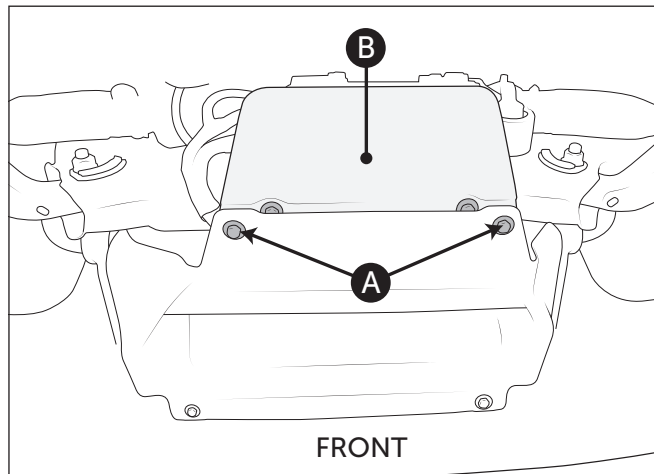

Figure 3
1. Remove the 2 reward bolts from the factory splash guard and SAVE (fig. 3-A).
2. Remove and discard the factory "skid" (fig. 3-B).